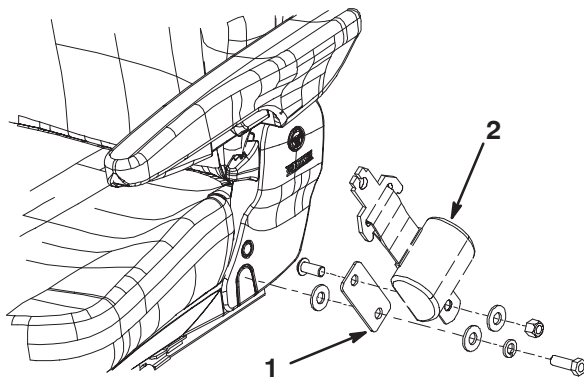

Figure 2
- Secure the seat belt mount to the seat belt retractor with a 7/16 x 1 in. button head screw, washer and a nut, as shown in figure 2.
- Secure the seat belt mount to the left side of the seat with a 7/16 x 1-1/4 in. capscrew, lock washer and (2) flat washers (Fig. 2).
- Secure the belt retractor directly to the left side of the seat with a 7/16 x 1-1/4 in. capscrew, lock washer and (2) flat washers (Fig. 2). The seat belt mount is not required.